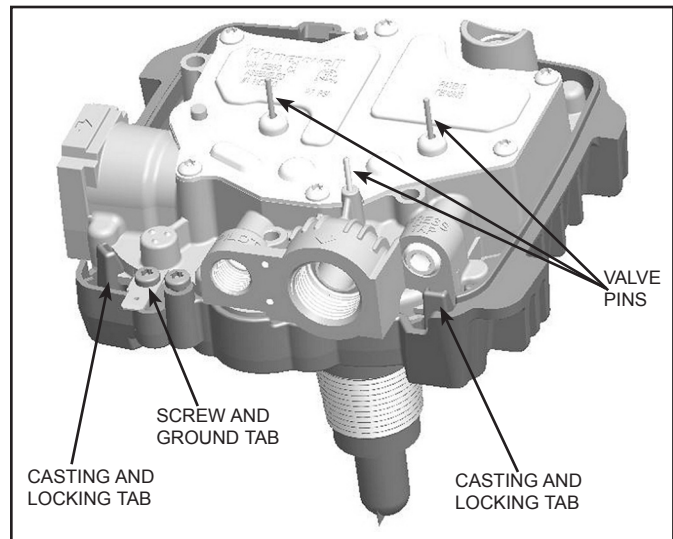

Figure 24. Gas Valve Showing Torx Screw and Ground Tab
5. Remove the screw and the ground tab with a Torx screwdriver. See **Figure 24**.